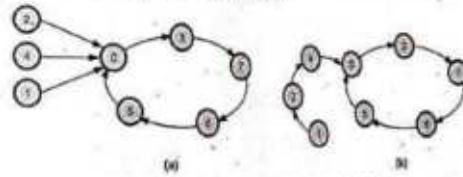

Fig. 5.9.46 State diagram for removing lockout
- To ensure that the lock-out does not occur, the counter should be designed by forcing the next state to be the initial state from the unused states as shown in Fig. 5.9.46.
- For example, as shown in Fig. 5.9.46, actually it is not necessary to force all unused states into initial state. Forcing any one state is sufficient. Because if counter initially goes to unused state which is not forced, it will go to another unused state. This will continue until it reaches the forced unused state. Once forced unused state is reached next state is used state, and circuit is lock free circuit. This is illustrated in Fig. 5.9.46 (b).